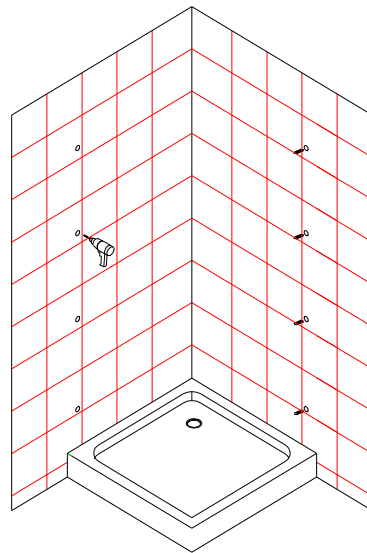

Figure 2
3. Drill the holes ($\varnothing 6$ mm) according to the marks and insert the wall plugs (1) into the holes, as shown in figure 2.